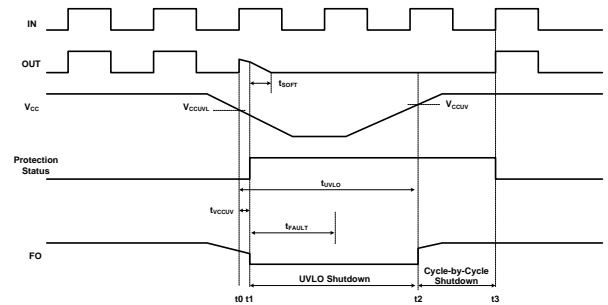

Figure 46. Timing chart of  $t_{UVLO} > t_{FAULT}$  condition
Gate drive output is softly turn-off and Fault-Out (FO) stays in low state until fault condition has been removed when the duration of under-voltage condition ( $t_{UVLO}$ ) longer than fault output (FO) time (typical 110  $\mu$ s) as shown in Figure 46 The fault output (FO/SD) and gate driver output goes to low state after under-voltage filtering time ( $t_{VCCUV}$ , typically 10  $\mu$ s) when the  $V_{CC}$  is below the under-voltage lockout low threshold voltage.